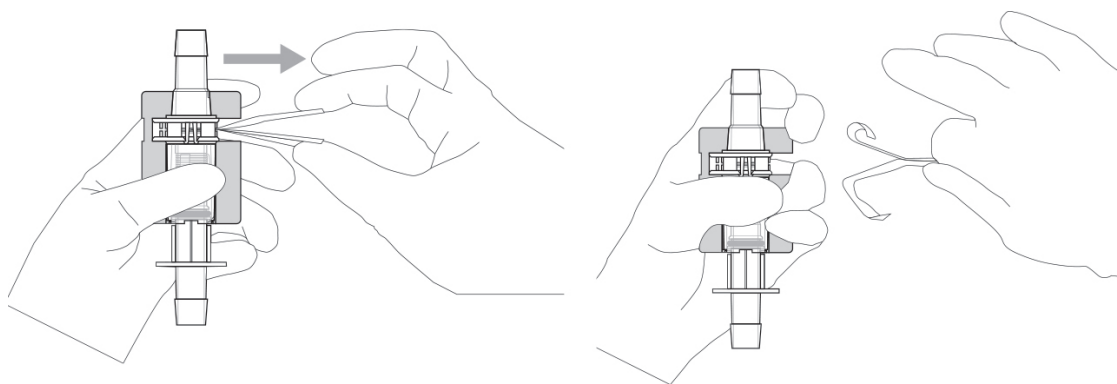

Figure 5.33. Removing the peel-away strips from the connector.
6. Hold the assembly aid in the palm of your hand with the Kleenpak connector facing outward, and your thumb supporting the Kleenpak connector in the assembly aid. Using your other hand, firmly grasp both peel-away strips as close as possible to the body of the assembly aid to ensure a secure grip, and pull both strips together in one continuous motion. Ensure that the Kleenpak connector is perpendicular to the peel-away strips (Figure 5.33).